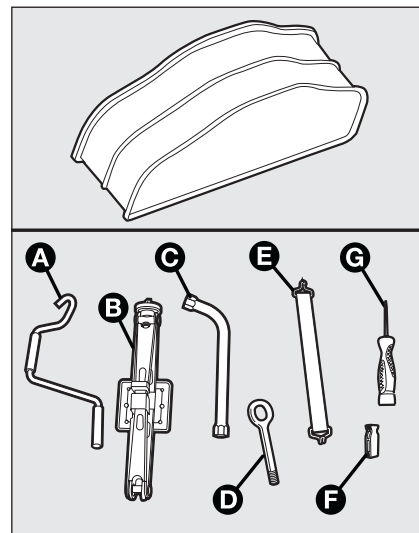
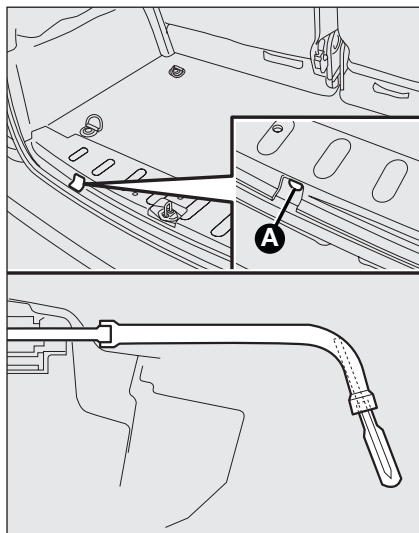
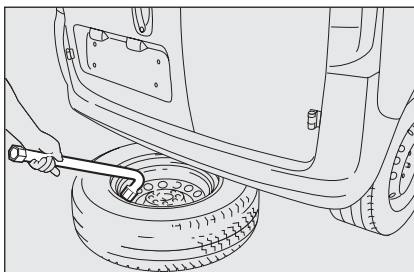

fig. 3
fig. 4
fig. 5
- ☐ the box contains the following tools **fig. 3**:
- ❑ Take the wrench **C-fig. 3** and turn the locknut of the spare wheel support **A-fig. 4** from the inside of the loading compartment so as to release the wheel. To reduce the effort made, place the screw driver **G-fig. 3** in the seat inside the wrench **C**.
- ❑ Then, use the wrench **C-fig. 3** to pull the wheel out of the vehicle, **fig. 5**.
- ❑ Loosen the fastening bolts of the wheel to be replaced by about one turn using the wrench provided **C-fig. 3**.
- ☐ Lift again the wheel tightening again the lock bolt **A-fig. 4**.